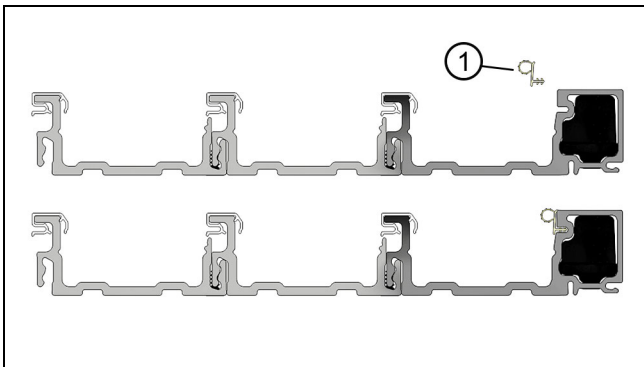
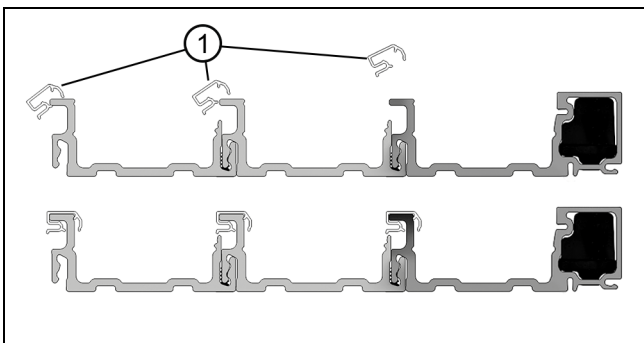
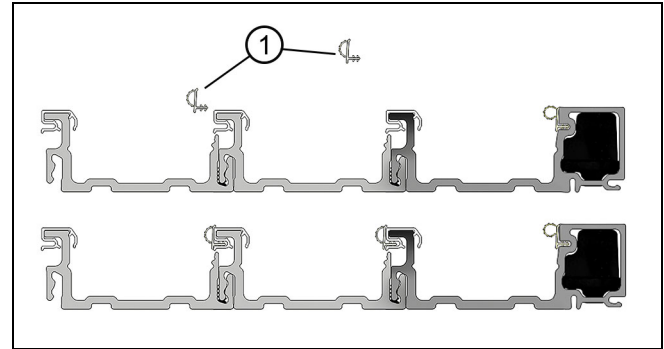
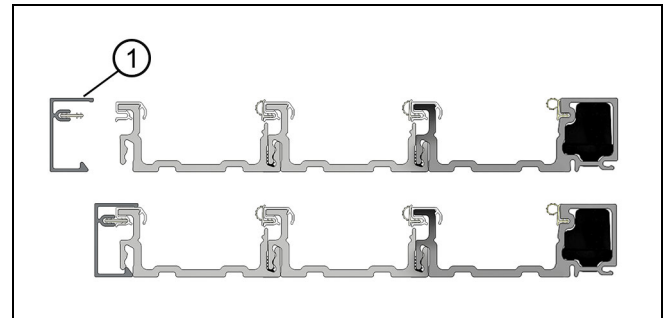

Figure 38
Figure 39
Figure 40
Figure 41
10. Where required, add the frame liner, weather strip, dust blocks, and frame clips over the spliced sections. See Figure 38, Figure 39, Figure 40, and Figure 41.